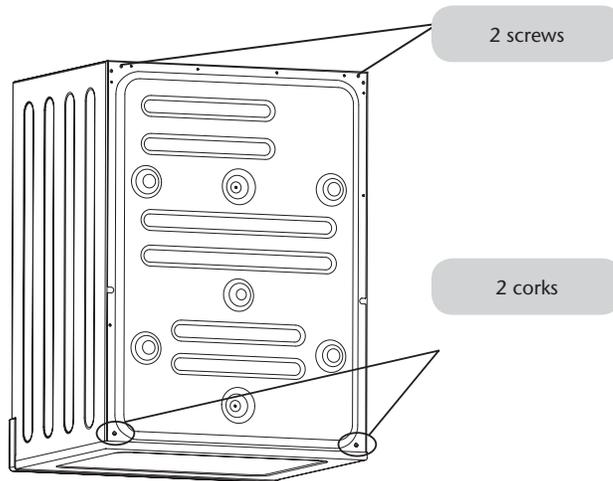

FIG. 2.
3. To install the hooks to the dryer, remove the 2 screws and 2 corks as indicated in Fig. 2.